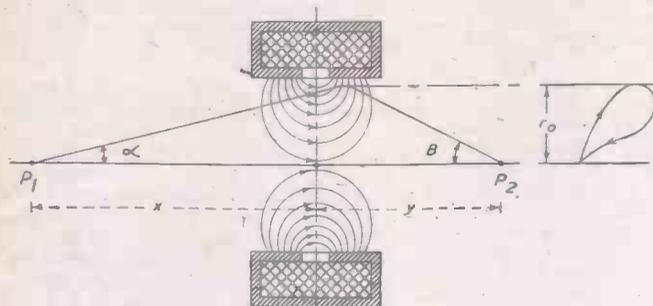

Fig. 7.—Short magnetic lens.
electron lens (3) is shown in Fig. 7, the left-hand portion of the diagram being a projection on a plane through the axis of symmetry and the right-hand portion of the diagram being a projection on a plane perpendicular to this axis. The lines of force drawn characterise the magnetic field of the lens. The electrons leave the axis at P_1 and reach it again at P_2 . The distances from P_1 and P_2 to the middle plane of the lens are "x" and "y" respectively; the angles which the electron ray makes with the axis at P_1 and P_2 are α and β respectively. The maximum distance of the electron from the axis is r.